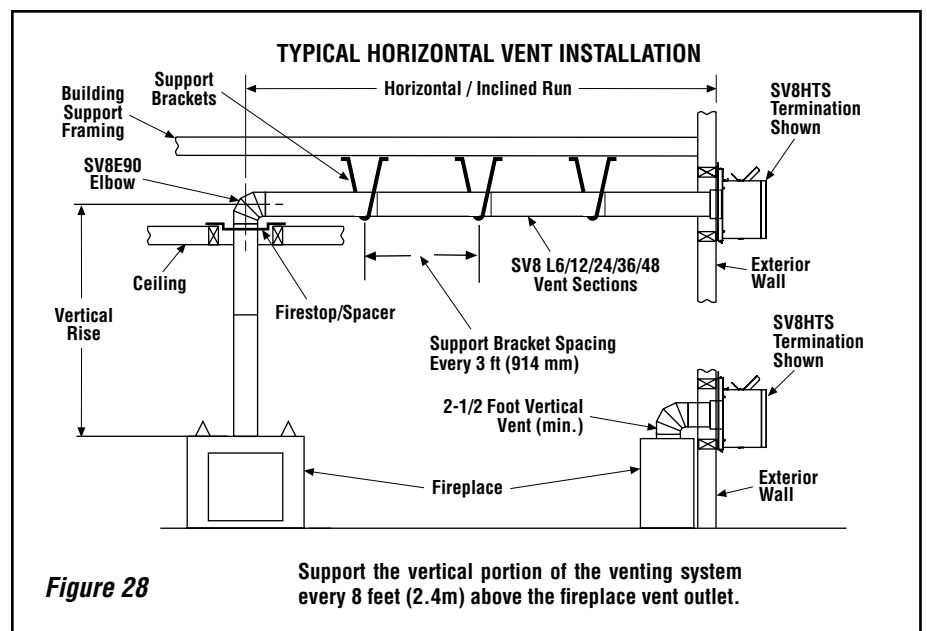

Figure 28
G. Continue installation of horizontal/inclined sections - Continue with the installation of the straight vent sections in horizontal/inclined run as described in **Step C**. Install support straps every 3' (914 mm) along horizontal/inclined vent runs using conventional plumber's tape. **See Page 17, Figure 28. It is very important that the horizontal/inclined run be maintained in a straight (no dips) and recommend to be in a slightly elevated plane, in a direction away from the fireplace 1/4" per foot (20 mm per meter) which is ideal,** through rise per foot run ratios that are smaller are acceptable all the way down to at or near level. Use a carpenter's level to measure from a constant surface and adjust the support straps as necessary.
See **Figures 28, 31, 32 and 33 on Pages 17, 19 and 20** and their associated Horizontal Vent Table which illustrate the various horizontal venting configurations that are possible for use with these appliances. **Secure Vent™** pipe applications are shown in these Figures. A Horizontal Vent Table summarizes each system's minimum and maximum vertical and horizontal length values that can be used to design and install the vent components in a variety of applications.
See **Figure 28**, it is very important that the horizontal/inclined run be maintained in a straight (no dips) and recommended to be in a slightly elevated plane, in a direction away from the fireplace of 1/4" rise per foot (20 mm per meter) which is ideal, though rise per foot run ratios that are smaller are acceptable all the way down to at or near level.